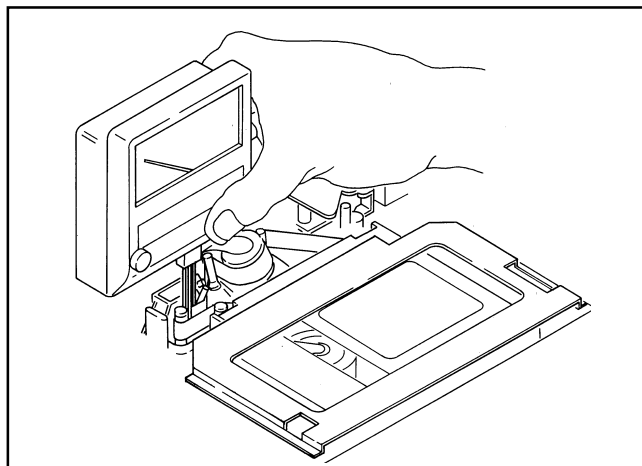

Figure 4-8-2
2. Insert the tension meter between S3 post and S4 post as shown in figure 4-8-2.